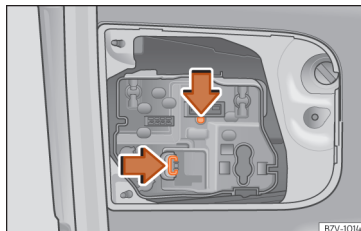

Fig. 69 On the rear lid: remove the bulb holder.
- Press on the attachment tabs in the direction of the arrow » **Fig. 69** and pull out the bulb holder.